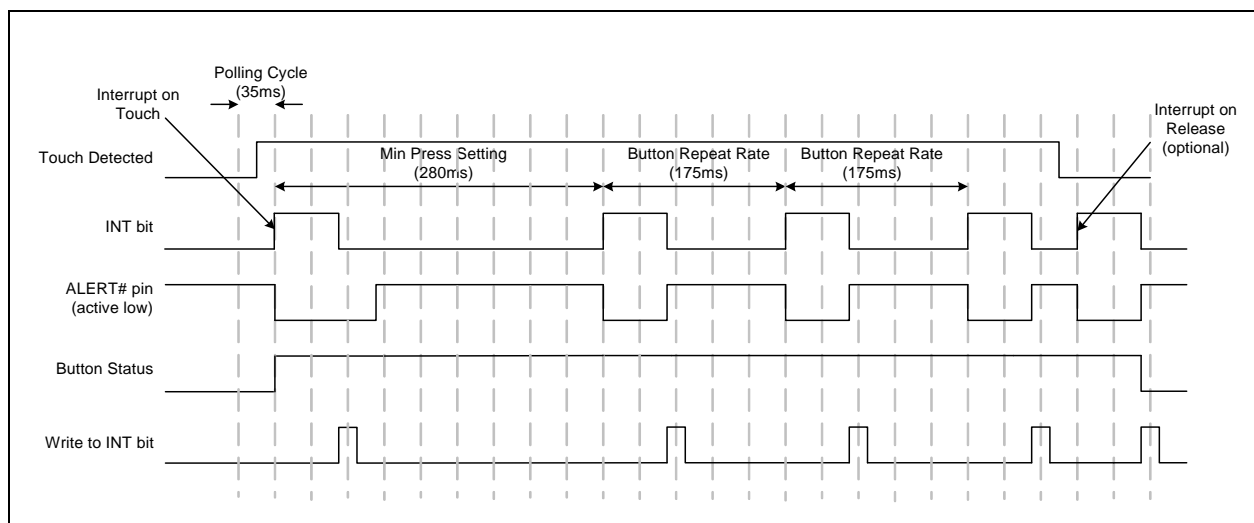
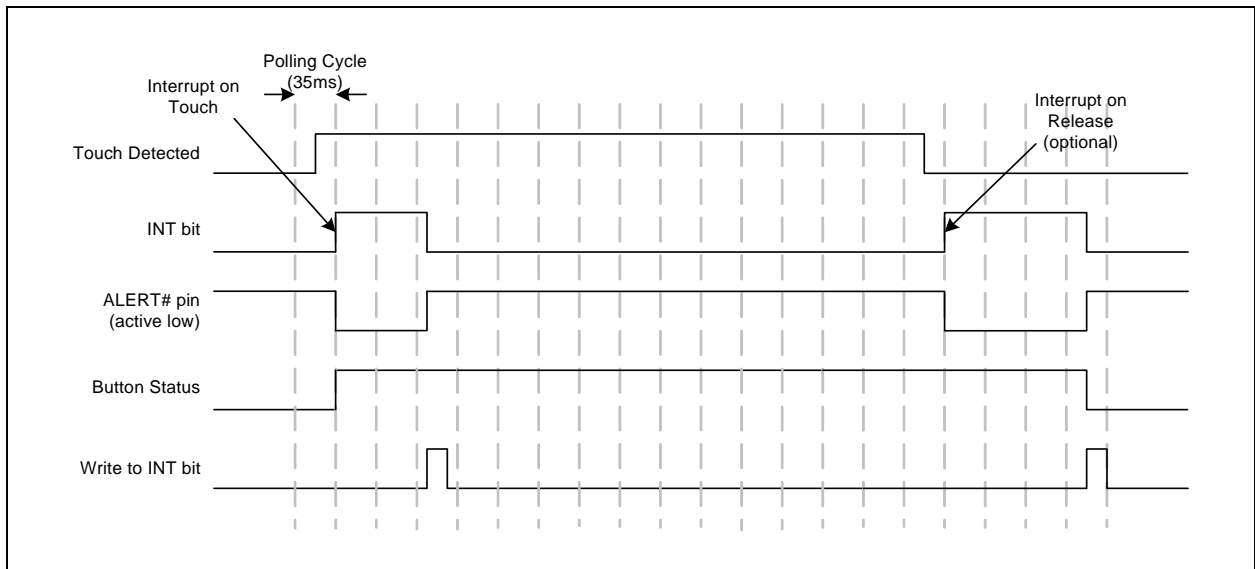

Figure 4.2 Sensor Interrupt Behavior - Repeat Rate Enabled
Figure 4.3 Sensor Interrupt Behavior - No Repeat Rate Enabled
1. An interrupt is generated when a touch is detected and, as a user selectable option, when a release is detected (by default - see Section 5.6). See Figure 4.3.
2. If the repeat rate is enabled then, so long as the touch is held, another interrupt will be generated based on the programmed repeat rate (see Figure 4.2).
**APPLICATION NOTE:** Figure 4.2 and Figure 4.3 show default operation which is to generate an interrupt upon sensor pad release and an active-low ALERT# pin.